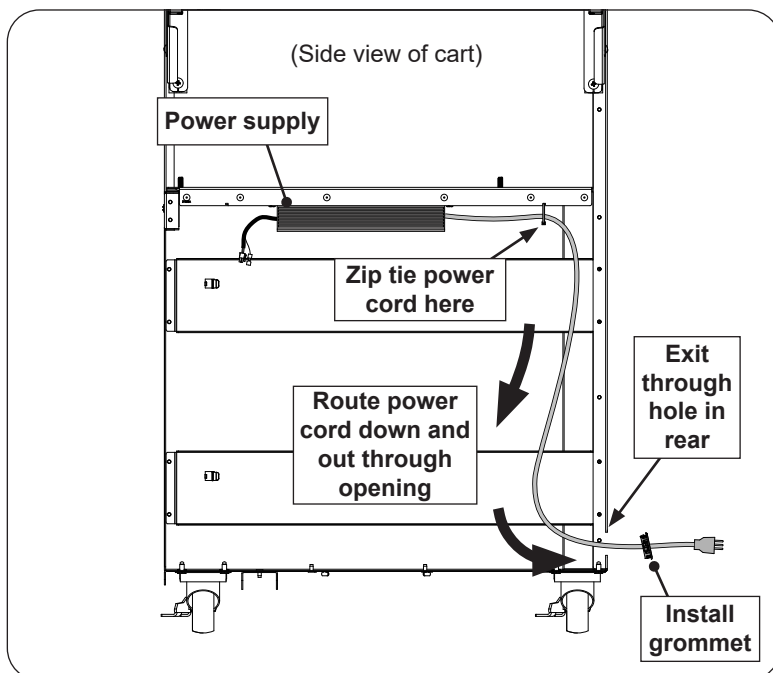

Fig. 10-5 Route power cord down and out
2. Route the power cord down the right side of the unit between the slide rail supports and right wall, and feed it through the hole to exit the cart. See Fig. 10-5.
4. Use a provided zip tie to secure the power cord in place as shown in See Fig. 10-5. Cut off the excess tie.